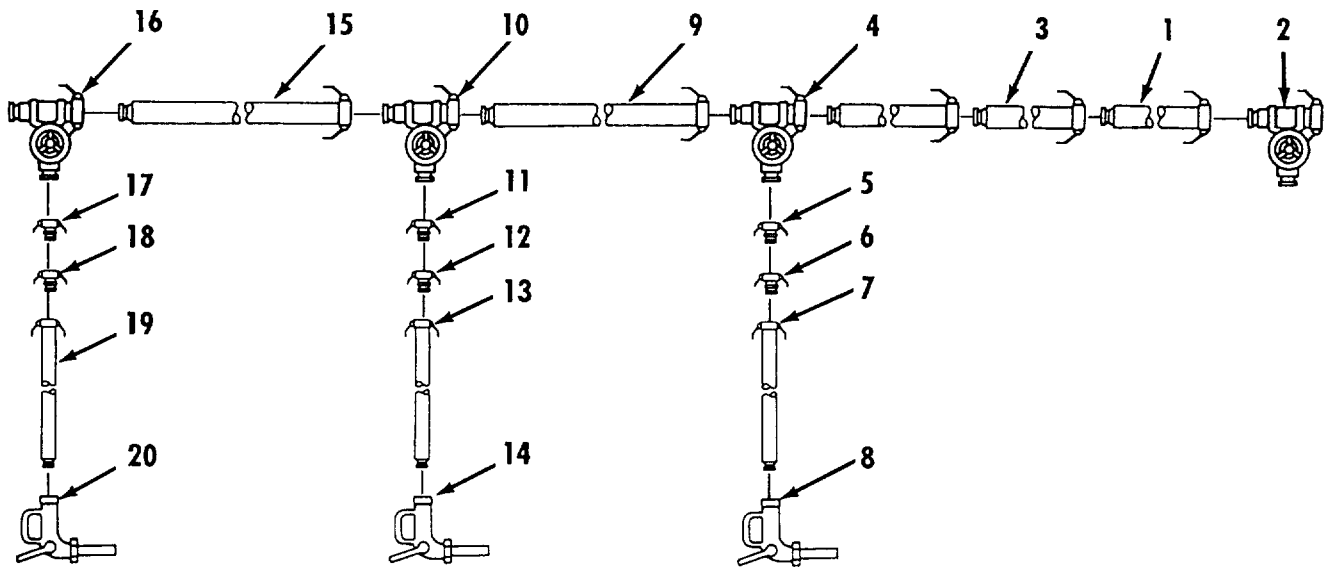

Figure 2-49. Fuel System - Drum Filling Points to Refueling Points Removal..
- h. Fuel System - Drum Filling Points to Refueling Points Removal. Refer to figure 2-49.